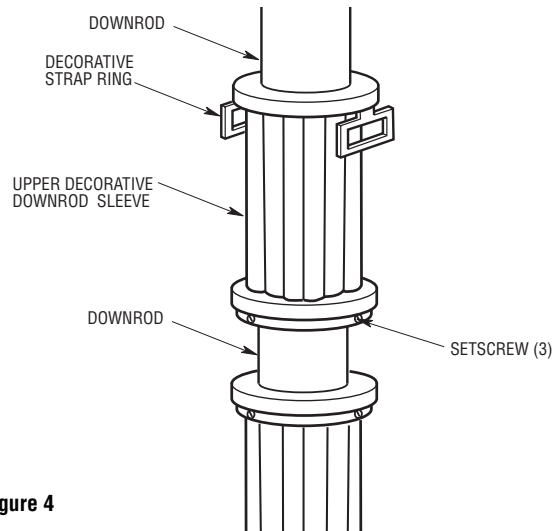

Figure 4
- 7. Route the motor lead wires and support wire through the upper decorative downrod sleeve and the decorative strap ring (Figure 4). Careful not to scratch the downrod with the sleeve and ring during installation.
- 8. Position the upper decorative downrod sleeve and the decorative strap ring just above the decorative downrod sleeve assembly during initial installation (Figure 4).